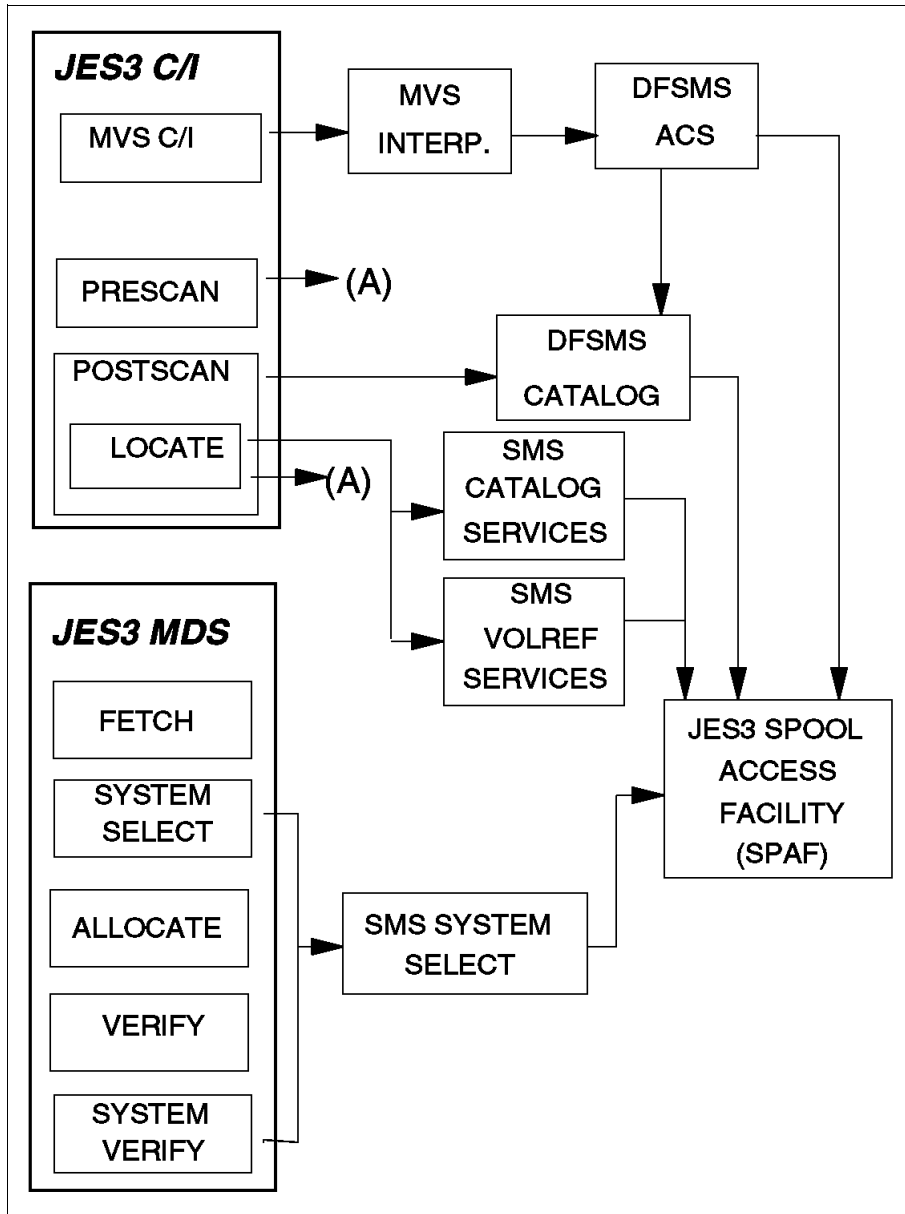

Figure C-11 JES3 CI and MDS processing phases
- ▶ Two calls, one from the prescan phase and the other call from the locate processing phase, are made to the new DFSMS support module, as shown in Figure C-11 on page 859.
Figure C-11 on page 859 shows the JES3 processing phases for CI and MDS. The processing phases include the support for system-managed direct access storage device (DASD) data sets.